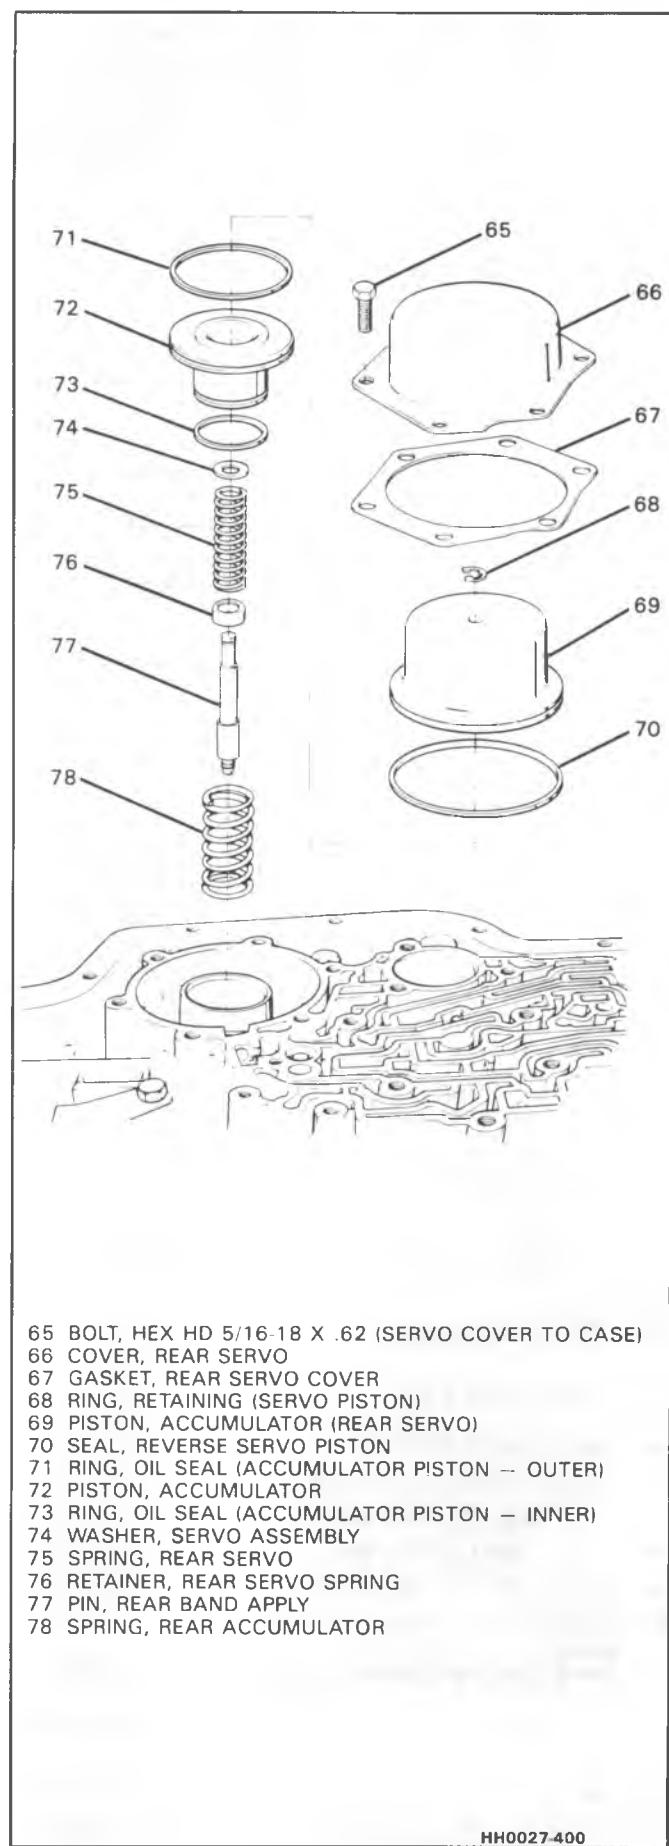

Figure 89 - Rear Servo Assembly
► Inspect (Figure 89)
- Remove retaining ring (68) from rear band apply pin (77) and inspect
- Cover (66) for:
- Pin (77) for wear
► Assemble (Figure 89)
1. Rear accumulator spring (78).
3. Inner (73) and outer (71) accumulator piston oil seals on accumulator piston (72). Place on rear band apply pin assembly.
4. Rear servo piston seal (70) on rear servo piston (69) and press onto rear band apply pin (77).
5. Retaining ring (68).
**Install or Connect (Figure 89)**
2. Cover (66), gasket (67) and bolts (65).